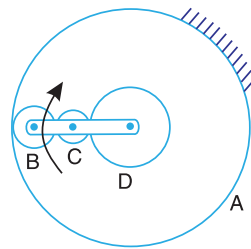

Fig. 13.35
6. An epicyclic gear train, as shown in Fig. 13.35, is composed of a fixed annular wheel A having 150 teeth. The wheel A is meshing with wheel B which drives wheel D through an idle wheel C, D being concentric with A . The wheels B and C are carried on an arm which revolves clockwise at 100 r.p.m. about the axis of A and D . If the wheels B and D have 25 teeth and 40 teeth respectively, find the number of teeth on C and the speed and sense of rotation of C . [Ans. 30 ; 600 r.p.m. clockwise]